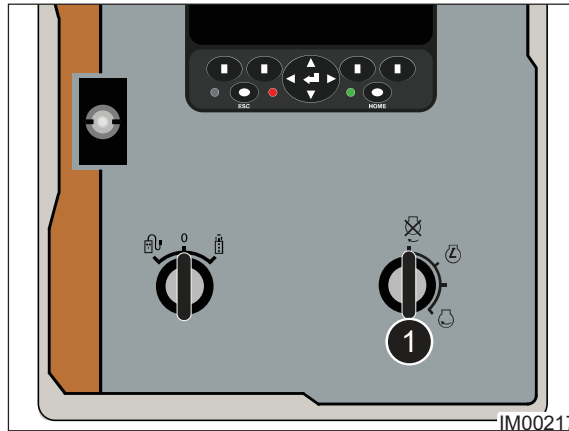

Fig: 9.9 - Ignition Key
7. Rotate the Ignition Key (Item 1, Fig: 9.9) Counter-Clockwise to switch off the engine. Remove the key from the ignition and store in a safe location.